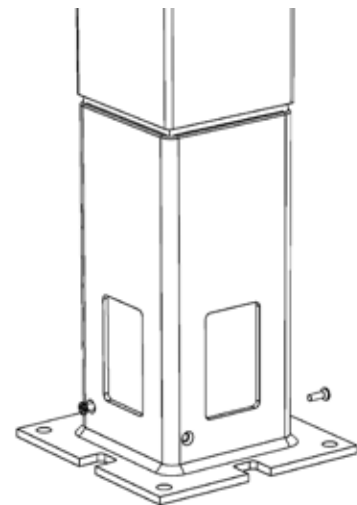

Figure 2
8. If necessary, place a shim under the mount to make the post plumb and true. To secure wood insert to surface mount bracket, use two #8 x 1 inch flat head screws (not included) (Figure 2).